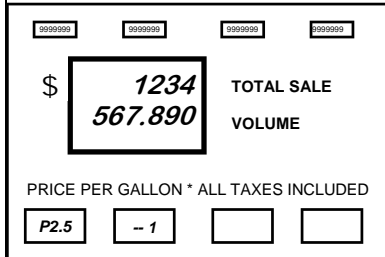

Figure 5.2
3. Press the **ENTER** button to save the new value. The main display moves to the next meter total (Product 2). The price display moves to Product 2 meter totals. See Figure 5.2. Repeat this sequence for remaining products. Use the **ENTER** button to advance or review the meter totals.